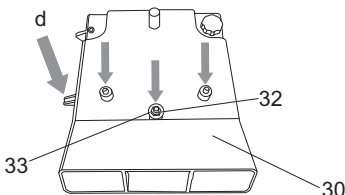

Fig. 16
- > Make note of "tab d" as this is the point that engages the interlock switch (31) and allows the planer thickneser to run safely. (Fig. 16 & 17)
- > Loosen the nut (32) with 10mm spanner supplied, then remove it and the flat washer M8 (33). (Fig. 16)
- > Secure the extraction port by fitting the flat washer M8 (33) and the nut (32) onto the middle (threaded) locating point, then tighten the nut (32).
- > Turn the height adjusting handle (11) clockwise to raise the thickneser bed. This will secure the extraction port in place as well as engaging the safety interlock switch.